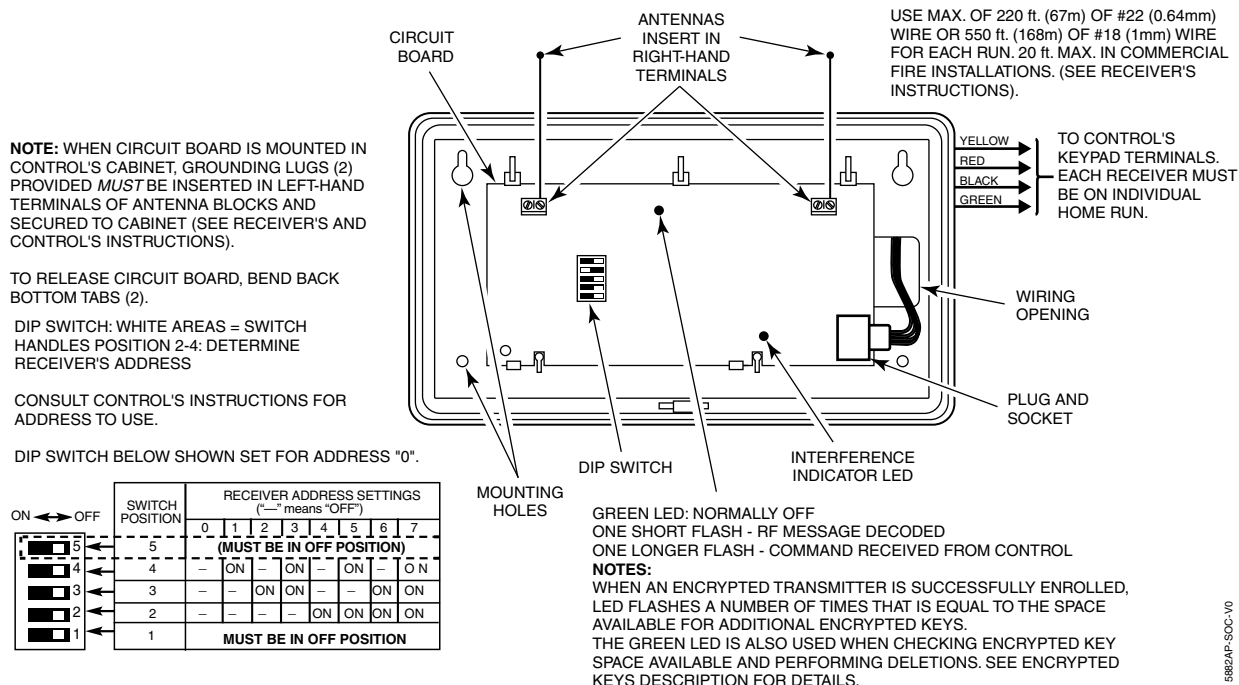

Figure 2: Summary of Connections, 5882AP RF Receiver
Set the receiver's DIP switch to identify the receiver's address (refer to the DIP switch chart in Figure 2).
5. **Insert the wiring plug (with 4 flying leads) into the mating socket on the receiver** (see Figure 2 for socket location). Connect the 4 wires to the control's corresponding remote keypad connection points (see "Interface Wiring" in the *SPECIFICATIONS* section).
60m nominal indoors from wireless transmitters (the actual range to be determined with the security system in Figure 2).